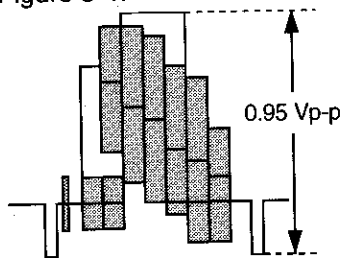

Figure 5-4.
3. Make sure that the E-E signal amplitude is $1.0V_{p-p}$ as shown in Figure 5-4.